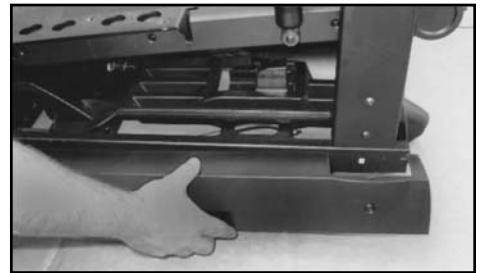

Figure 11-1
- 11-1** Attach the left and right Plastic Frame Covers to the sides of the base frame with (6) #10 Phillips Head Screws (3 per side) and the provided #2 Phillips screwdriver (See Figures 11-1 and 11-2).